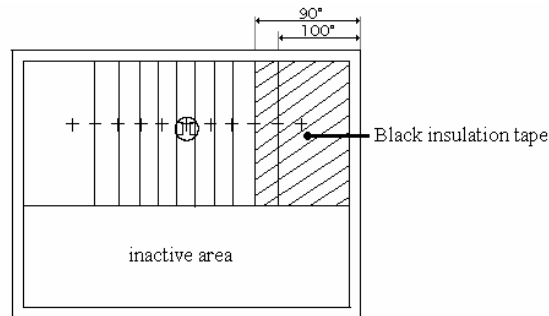

Fig 3: Blocking off sections of the main lens.
- C) The white Main Lens has 11 'windows'. You need to tape over the windows you want to block. For example: If you need a detection arc of 90° , you will need to block off two end windows. (*see fig 3*)